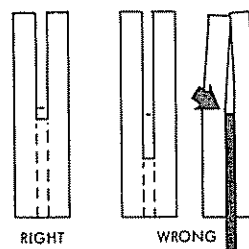

Figure 62
1. The process of cutting thick boards into thinner ones is known as "resawing". It is a ripping operation. (See figure 62.) Small boards (up to 3-3/8-inch maximum width) can be resawed in one pass, but larger boards (up to 6-1/4-inch maximum) require two passes, one along each edge of the board.
3. If the first cut is too deep, the kerf will close and bind the saw on the second cut, with danger of kickback. Also, when the kerf closes, the two sides of the cut are no longer parallel to the saw blade, and the saw will cut into them to spoil their appearance. (See figure 62.)